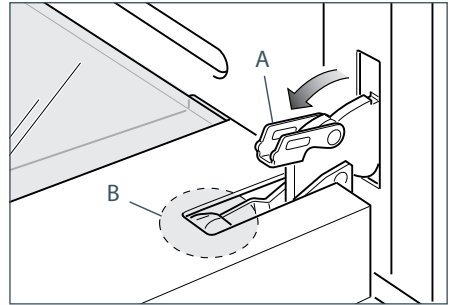
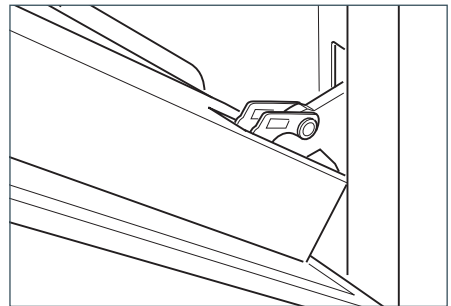

Fig.81b
Fig.81c
- Fully open the lever "A" on the left and right hinges (Fig. 81b).
- Gently close the door (Fig. 81c) until the left and right hinges are hooked to part "B" of the door (Fig. 81b).